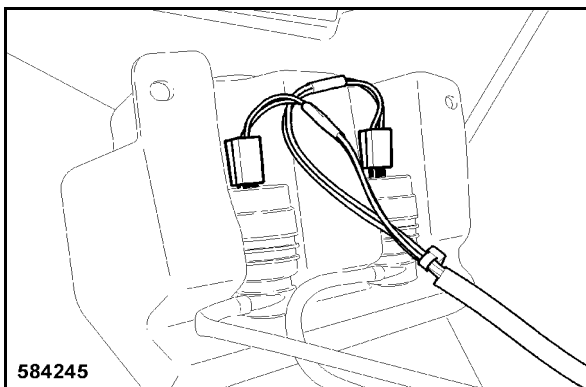

Fig. 227
- Plug on both connecting plugs for the washing water pumps (Fig. 227).